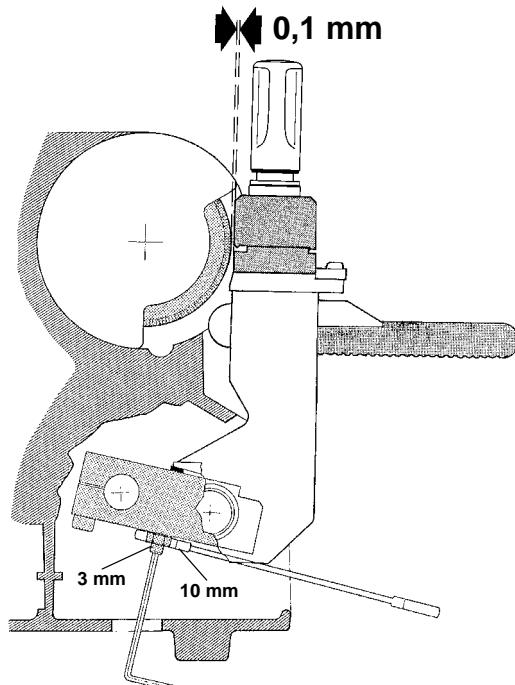

Fig. 30
- 2) Release the carriage and raise (against the cutting tool) at the end of run (fig.30).